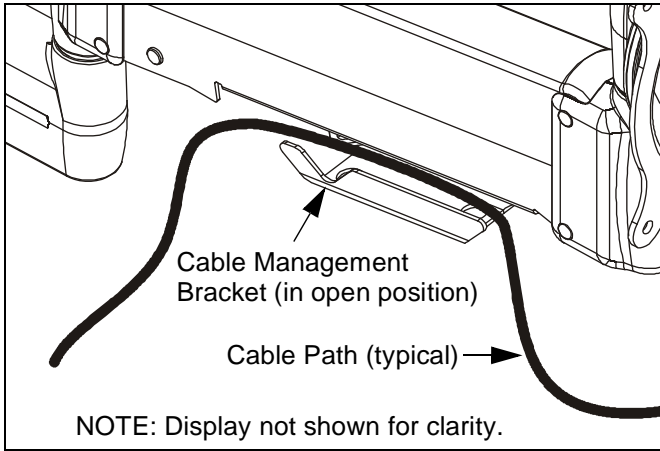

Figure 9
3. Carefully insert cables into bracket (See Figure 9).